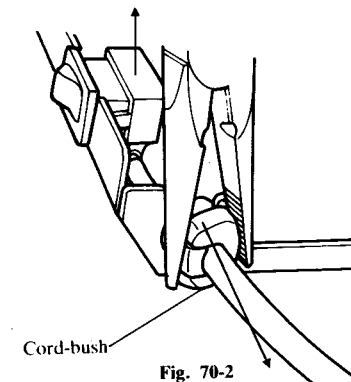

Fig. 70-2
- (2) Disconnect the connector P1 from the Main P.C.B. and take out the Power SW.
- (3) By using the pliers, pull the cord-bush out. (See Fig. 70-2)